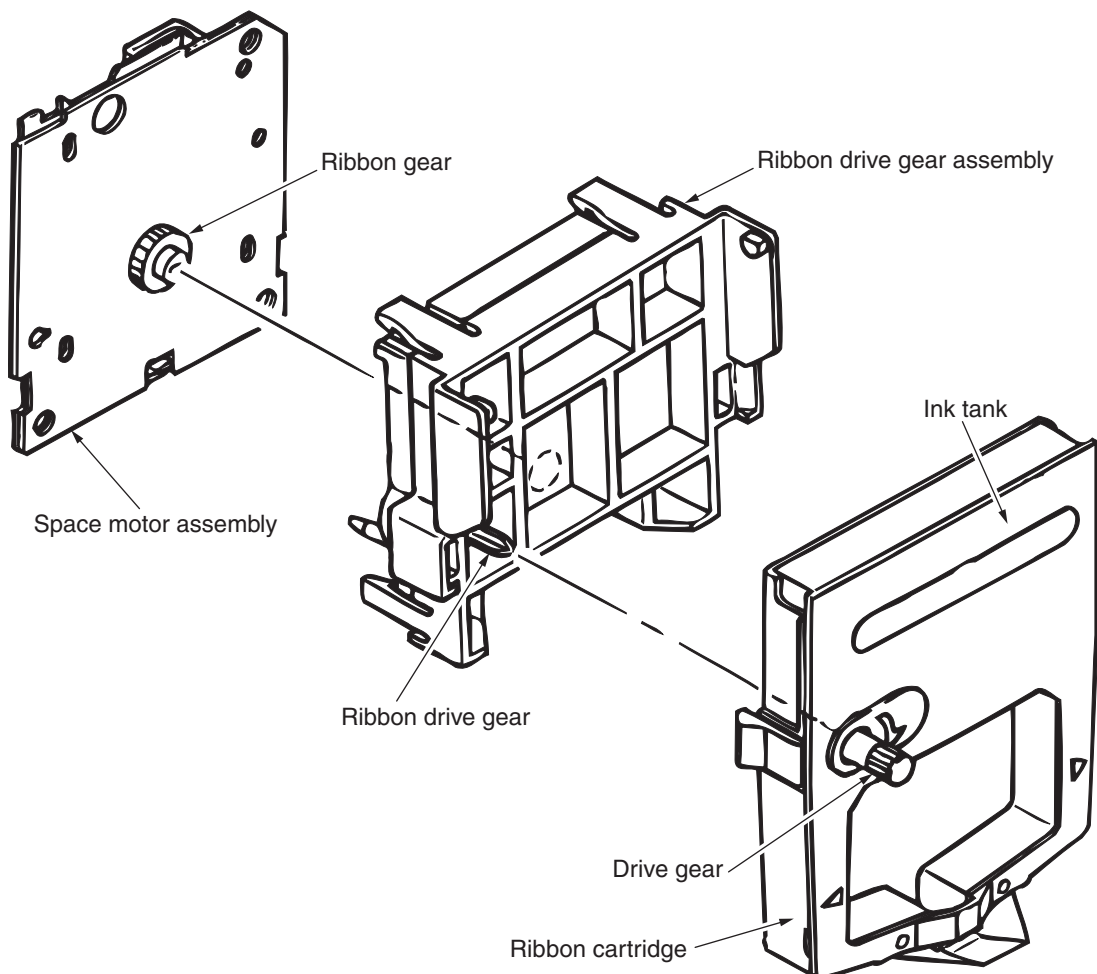

Figure 2-6
2.2.4 Ribbon drive (See Figure 2-6.)